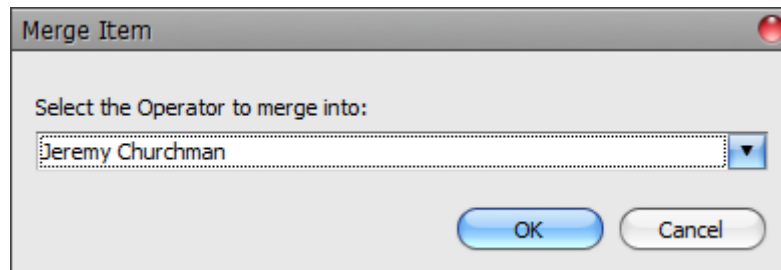

Figure 5-16: Select the Operator to merge into window
3. Select **Merge with Another Operator**. Another pop-up window appears (Figure 5-16).